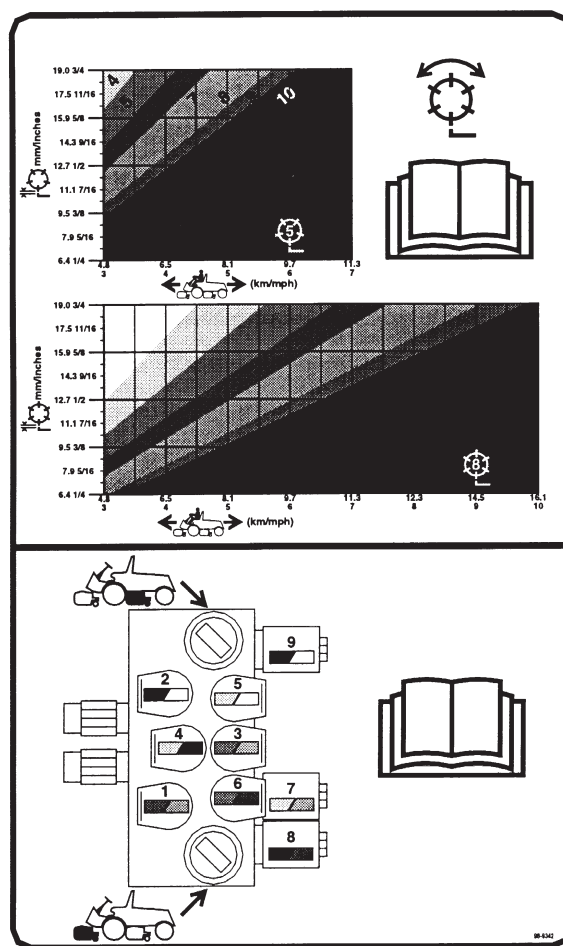

Figure 30
3. Using the appropriate graph (Fig. 30) for 5 blade or 8 blade cutting units, determine the proper reel speed setting.